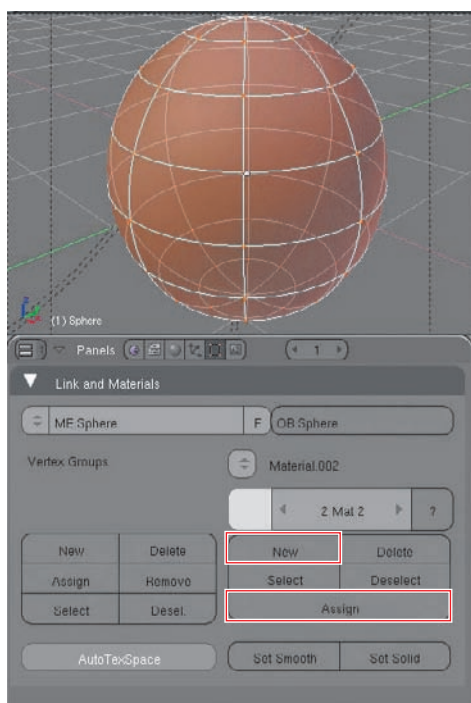
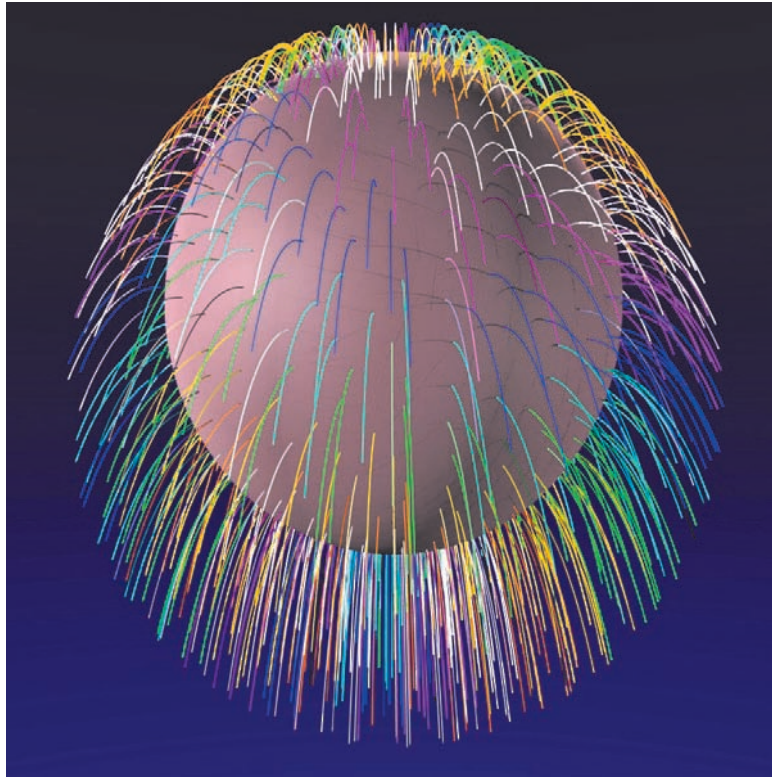

Figure 4.7
Figure 4.8 Rendered with the emitter mesh visible
3. As you can see, the ball itself is not being rendered. Furthermore, notice that the texture pattern you put on the ball is being expressed in the color of the strand particles themselves. By default, the particles use the material at material index 1, as you saw in Chapter 2. To give the ball a new material, add a material index in the Link And Materials tab of the Edit Buttons area. Tab into Edit mode in the 3D viewport and select the whole mesh by pressing the A key. Click Assign in the in the Materials buttons as indicated in Figure 4.7. When you access the Materials buttons, you'll see that the new material is a direct duplication of the original material, complete with the Orco-mapped texture. Remove this texture by clicking the Clear button on the Texture tab of the material. Set the new base material as you like it. I set the material to a slightly pinkish skin color. Finally, on the Visualization tab, set the Emitter to render. When you render now, you will see something like the image in Figure 4.8.